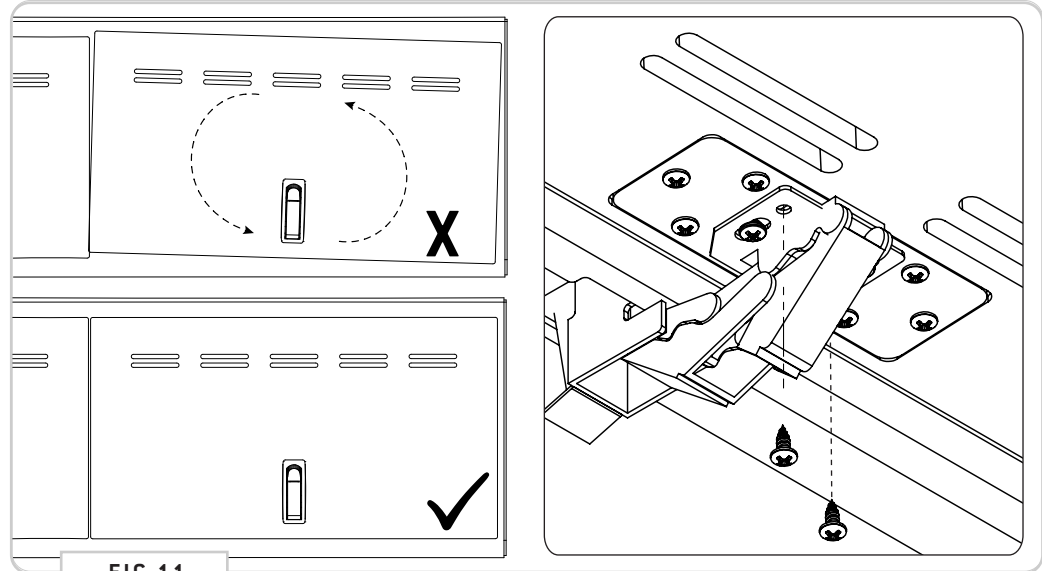

FIG 11
5.2 Once alignment is achieved, add (2ea) **#6 Wood Screws** into the setting hinge slots as pictured in **FIG 11**.